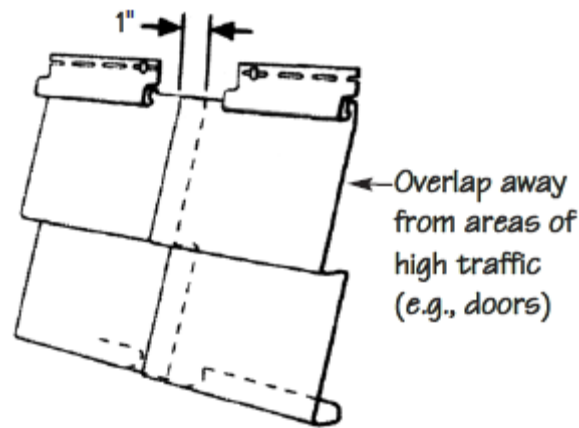

Figure 11-7. Siding Overlap.
2. Install every piece with a 1" overlap between pieces and a minimum of $\frac{1}{2}$ " space between the top locks. Also, maintain a $\frac{1}{4}$ " gap at the corners (to allow for expansion) and ends of pieces, including corner posts, J-channel, windows, J-blocks, etc. (see Figure 11-7). Overlap the siding pieces such that in high traffic areas, one cannot see into the overlapped joint.